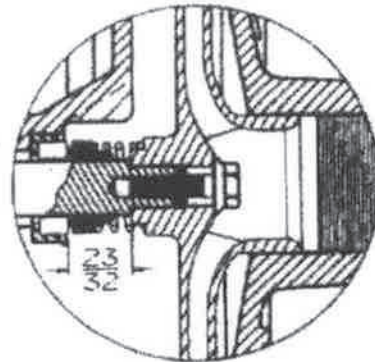

FIG. 7
- Check dimension from face of ceramic seat to shaft shoulder. This distance should be as noted in Figure 7 within a tolerance of $\pm 1/64$.